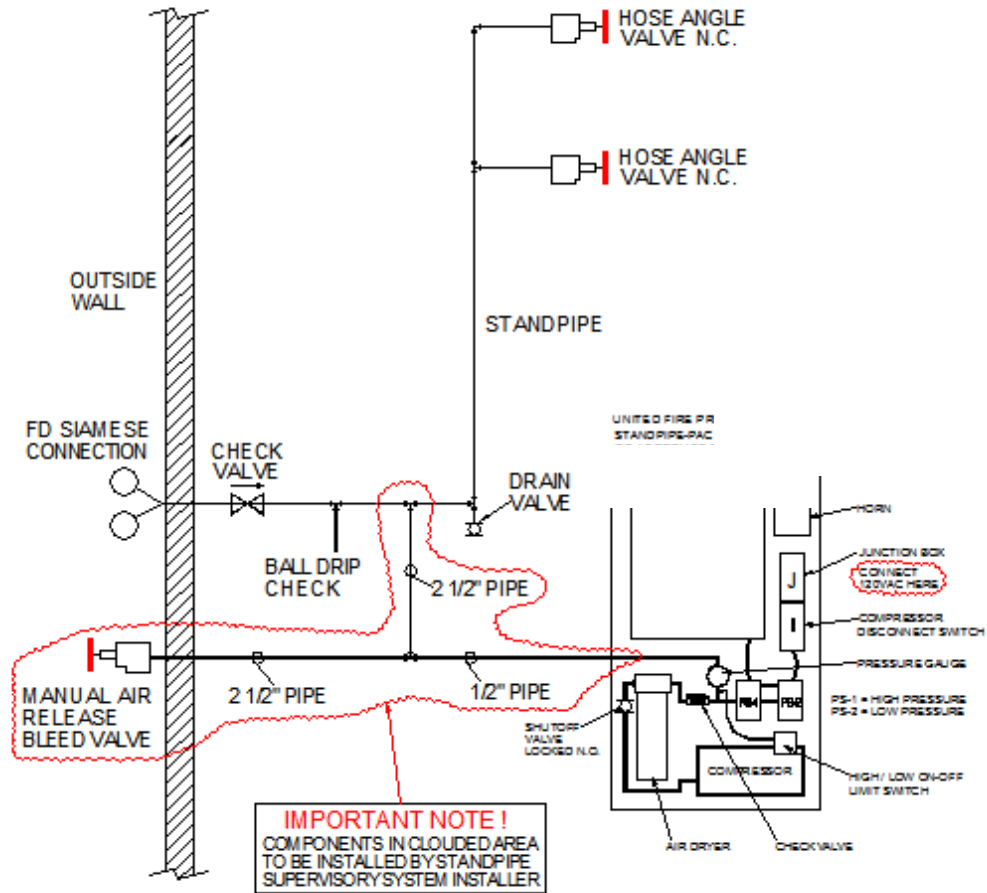

Figure 7 – **STANDPIPE-PAC™** Installation
3.3.2. Piping. See Figure 7. The piping in the red cloud is to be installed by the **STANDPIPE-PAC™** system installer. Use Sch. 40 black pipe and Class 150 fittings. The tee to connect the **STANDPIPE-PAC™** shall be located after the check valve, and should be located before the drain valve. Connect 1/2" pipe to point labeled OUTLET on **STANDPIPE-PAC™** unit. Ensure that the standpipe is NOT PRESSURIZED prior to cutting in the tee at the installation location.